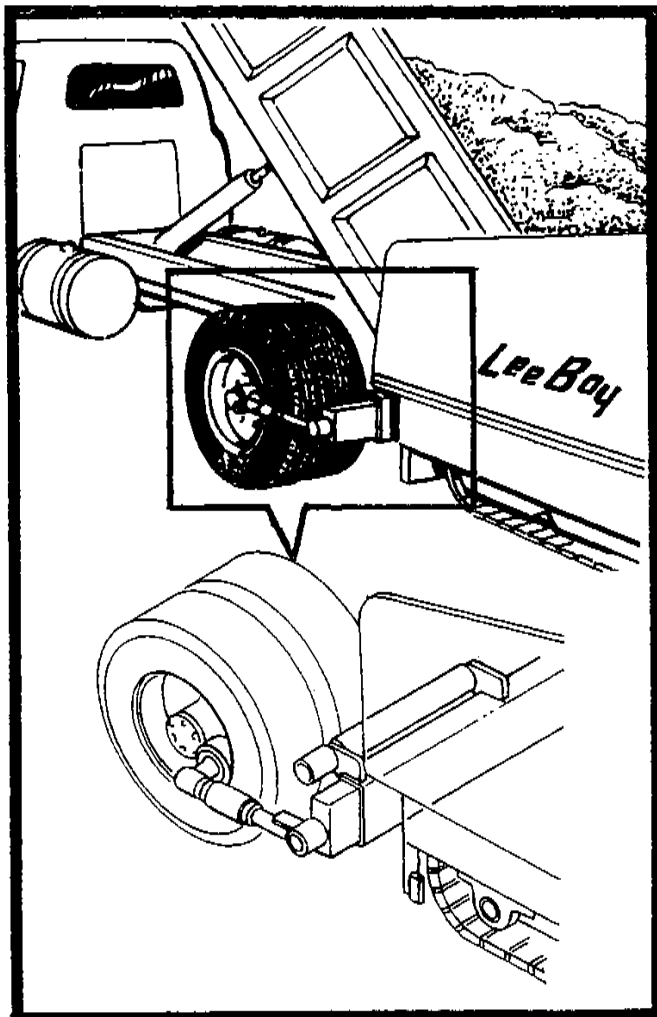

FIGURE 7
4. It may be necessary to adjust the roller guides to the inside of the wheel rims, initially. See figure 7.